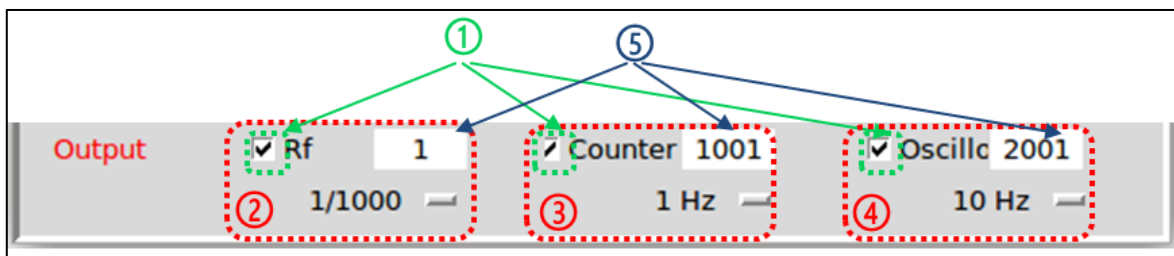

Figure 28: Parameters of the data output module
The Data output module (Figure 28) defines the output data sent to the computer by checking buttons ①. These data are:
- the data processed by the RF module ③,
- the counting data ④,
- the data from the Oscilloscope module ⑤.